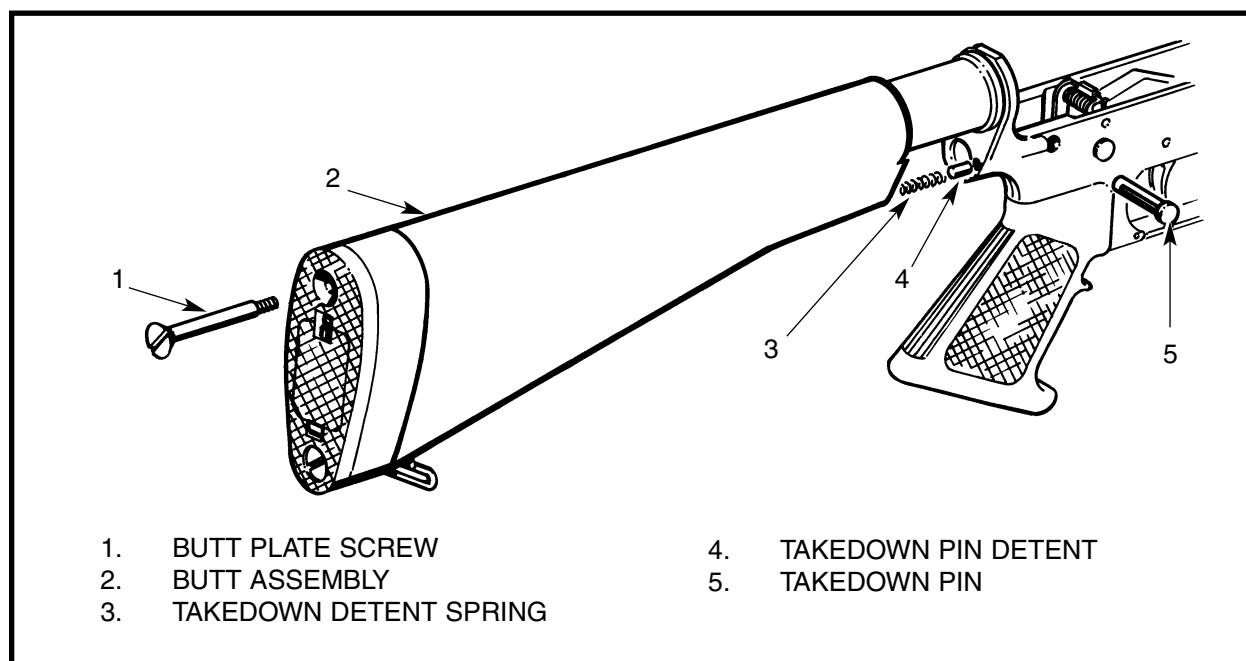

Figure 3-2-37 Removing the Butt Assembly
- 37. **SOLID BUTTSTOCK.** To remove the butt assembly, see Figure 3-2-37 and proceed as follows:
- a. Unscrew the butt plate screw (1);